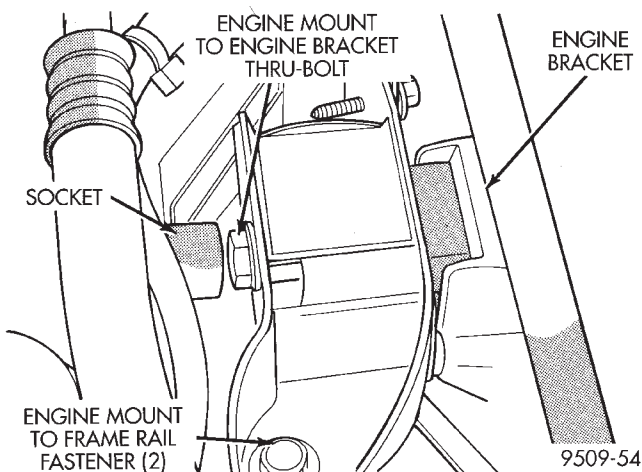

Fig. 13 Engine Mounting—Right
- (1) Remove the purge duty solenoid from engine mount bracket.
- (2) Remove the right engine mount insulator vertical fasteners from frame rail (Fig. 13).
- (3) Remove the load on the engine mounts by carefully supporting the engine and transmission assembly with a floor jack.
(4) Remove the thru-bolt access hole cover. Remove the thru-bolt from the insulator assembly (Fig. 13). Remove insulator.
(5) Reverse removal procedure for installation. Tighten engine mount to rail fasteners to 54 N·m (40 ft. lbs.), then tighten engine mount to engine bracket thru-bolt to 108 N·m (80 ft. lbs.).